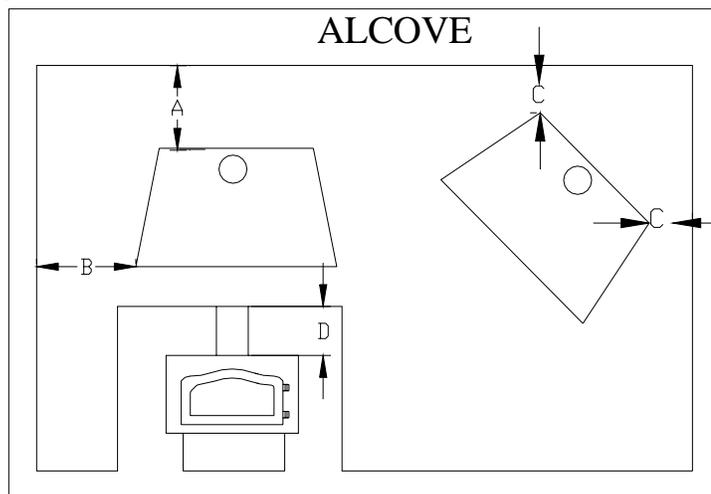

FIGURE 3: ALCOVE CLEARANCES
2. Alcove clearances require the use of listed UL 103 or listed ULC S629 Type HT (2100°F) double wall chimney pipe to establish clearances according to FIGURE 3 as listed in TABLE 3.
TABLE 2: ALCOVE CLEARANCES, IN INCHES, REFER TO FIGURE 3